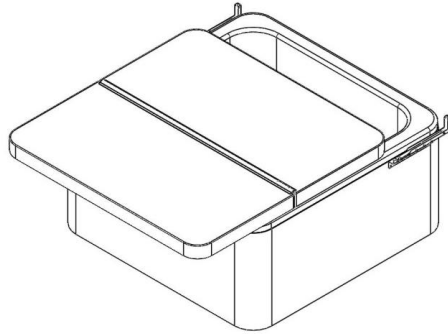

Figure 9
9. Slide the spa cover away from the Cover Valet. See Fig 9.